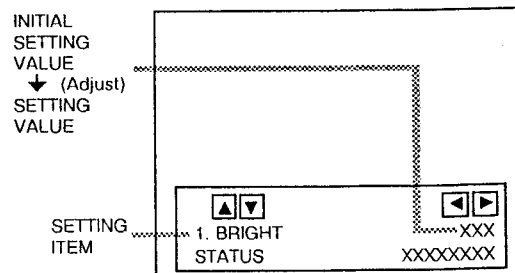
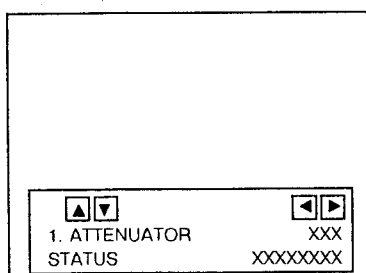
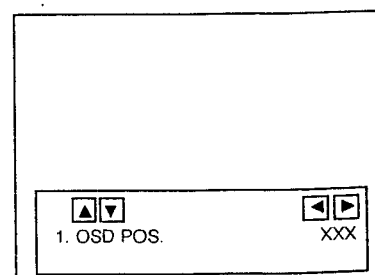

Fig. 3 PICTURE MODE
Fig. 4 SOUND MODE
Fig. 5 OTHERS MODE
- If the UP / DOWN KEY is pressed, the PICTURE MODE screen shown in Fig.3 or the SOUND MODE screen shown in Fig.4 or the OTHERS MODE screen shown in Fig.5 is displayed and the PICTURE, SOUND or OTHERS setting can be performed.